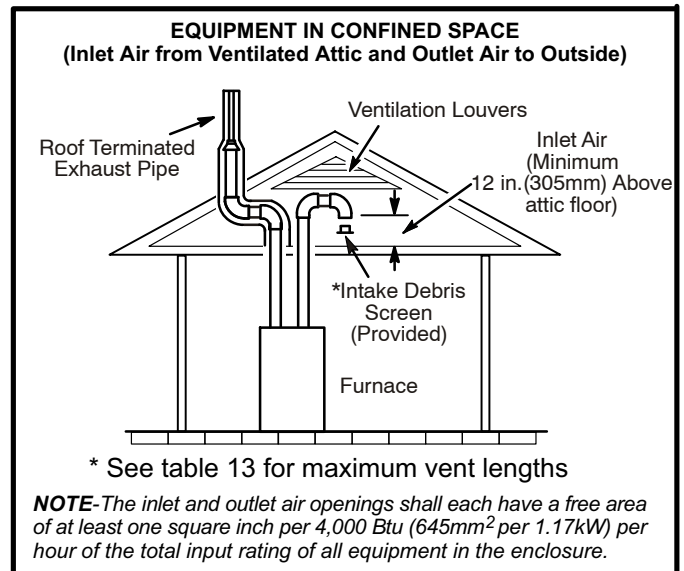
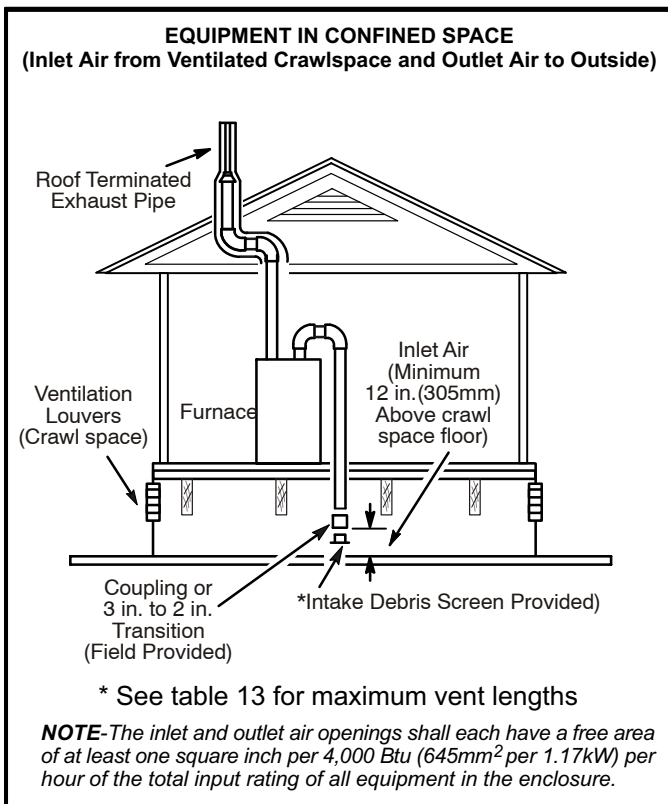

FIGURE 27
FIGURE 28
- 2 - If intake air is drawn from a ventilated attic (figure 27) or ventilated crawlspace (figure 28) the exhaust vent length must not exceed those listed in table 13. If 3" diameter pipe is used, reduce to 2" diameter pipe at the termination point to accommodate the debris screen.